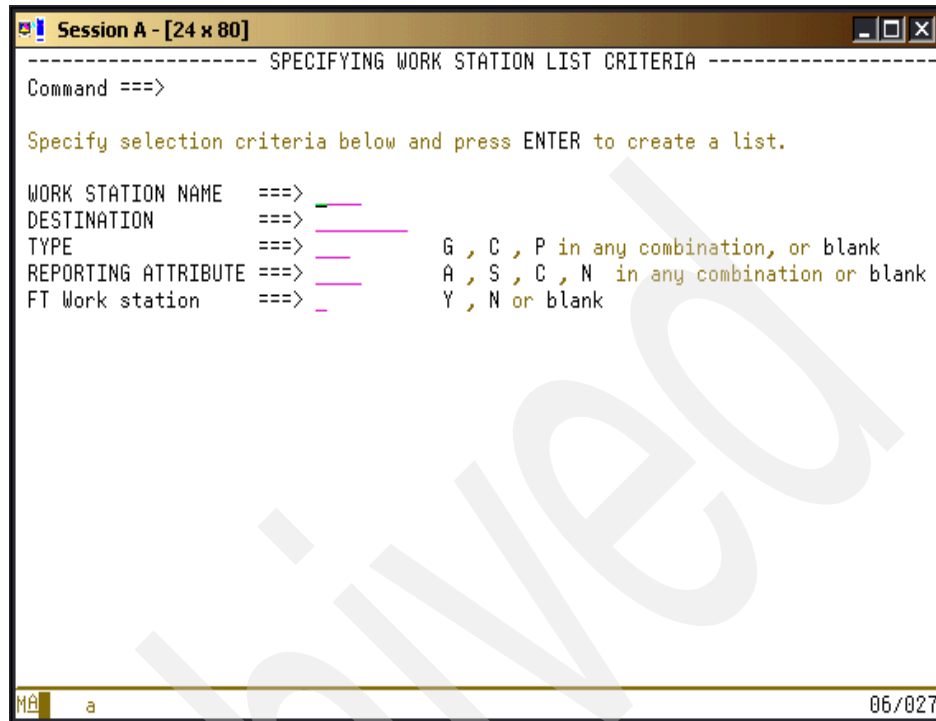

Figure 4-7 SPECIFYING WORK STATION LIST CRITERIA
3. Choose **Option 2 - LIST WS**. The SPECIFYING WORK STATION LIST CRITERIA panel that is shown in Figure 4-7 on page 107 displays.